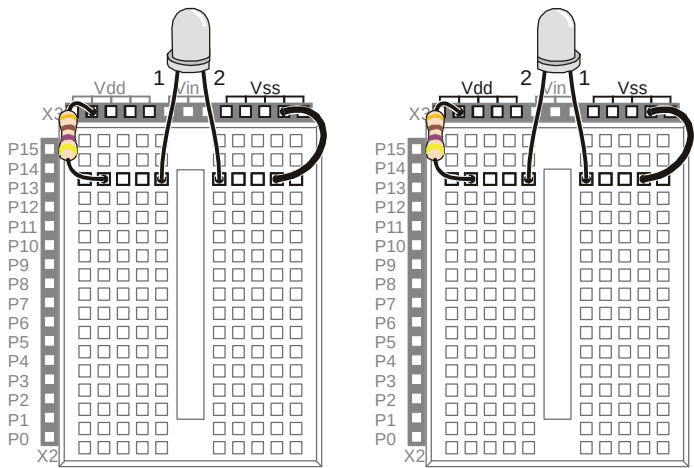

Figure 2-18
Figure 2-18 shows the manual test for the bicolor LED.
- ✓ Build the circuit shown on the left side of Figure 2-18.
- ✓ Modify your circuit so that it matches the right side of Figure 2-18.